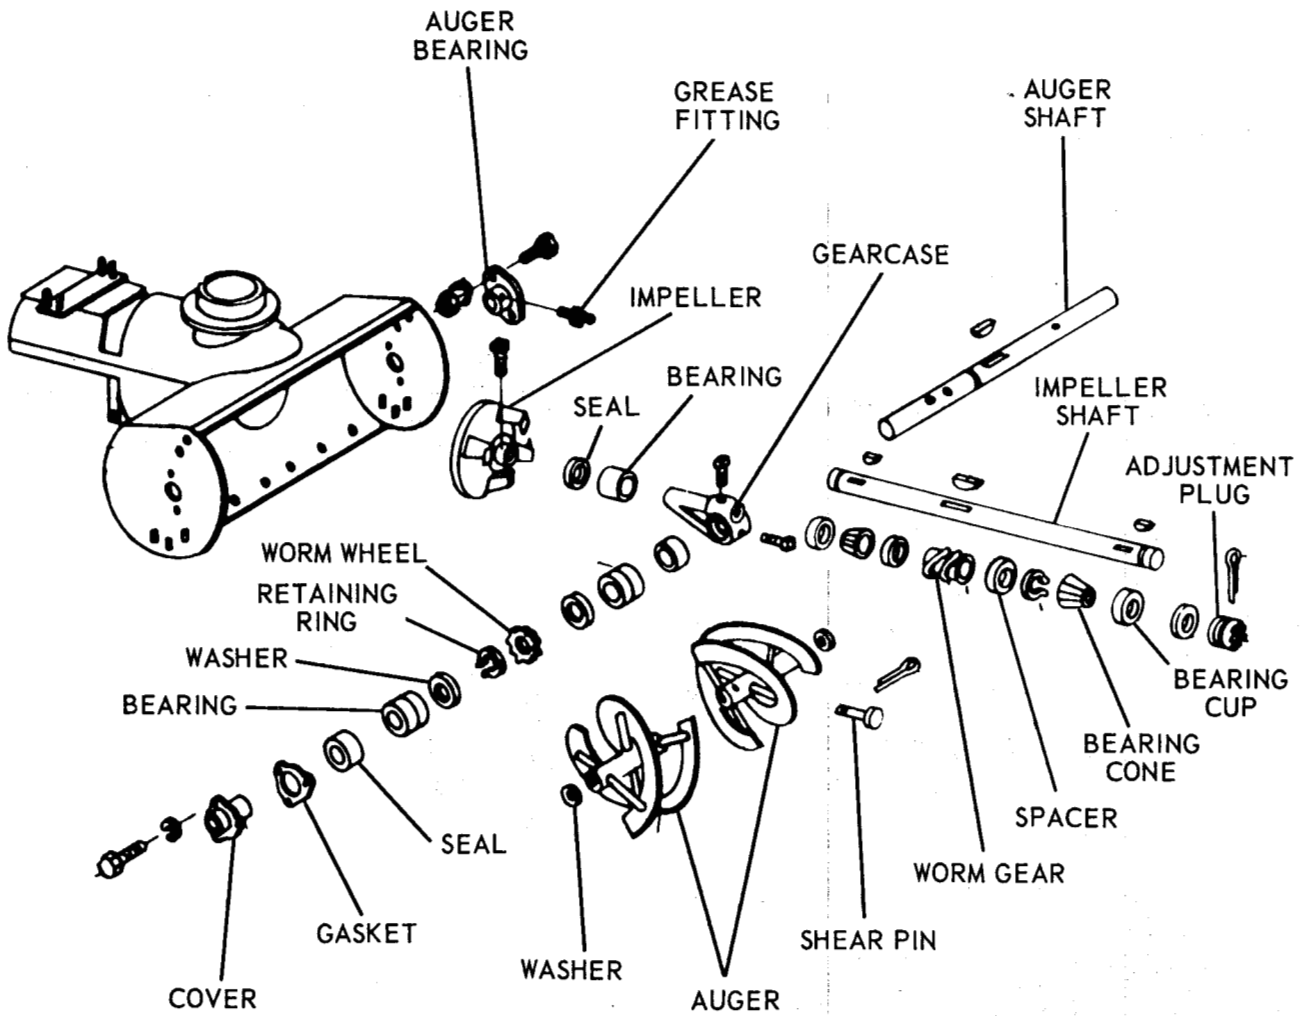

FIGURE 19
c. Place unit in "normal" upright position and remove auger bearing grease fittings and auger bearings. Refer to Chap. VI, Fig. 19.